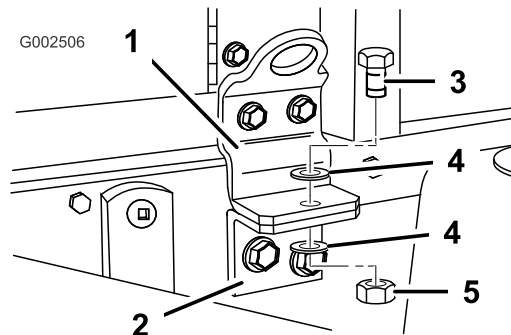

Figure 24
- Secure the tank skid assembly to the frame with a bolt (1/2 x 1-1/2 inches), two washers (1/2 inch), and a locknut (1/2 inch) as shown in Figure 24.